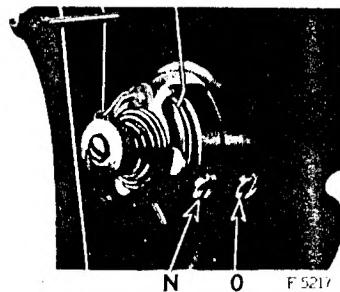

Fig. 16. Adjustments of Thread Controller
For more controller action on the thread, loosen the stop screw (N, Fig.16) at the right of the tension and set the stop lower, and for less action, set the stop higher.
To strengthen the action of the controller spring on the thread, loosen the tension stud screw (O, Fig.16) at the right of the stop screw and turn the tension stud slightly to the left with a screwdriver, or to lighten its action on the thread, turn the tension stud to the right and tighten the tension stud screw (O).